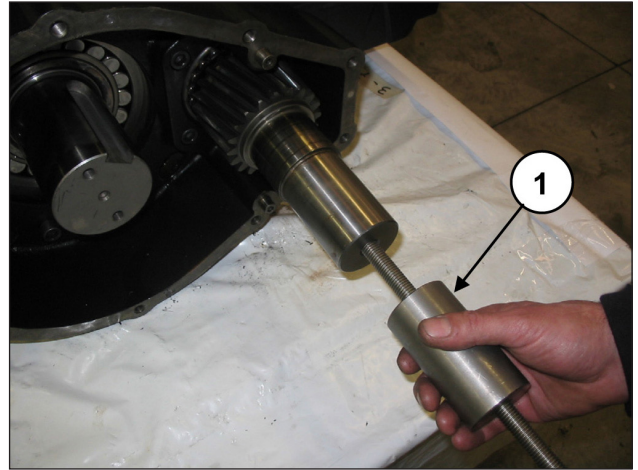

Fig. 14
Remove the pinion using an extractor hammer to be applied on the M14 hole (pos. ①, Fig. 14).